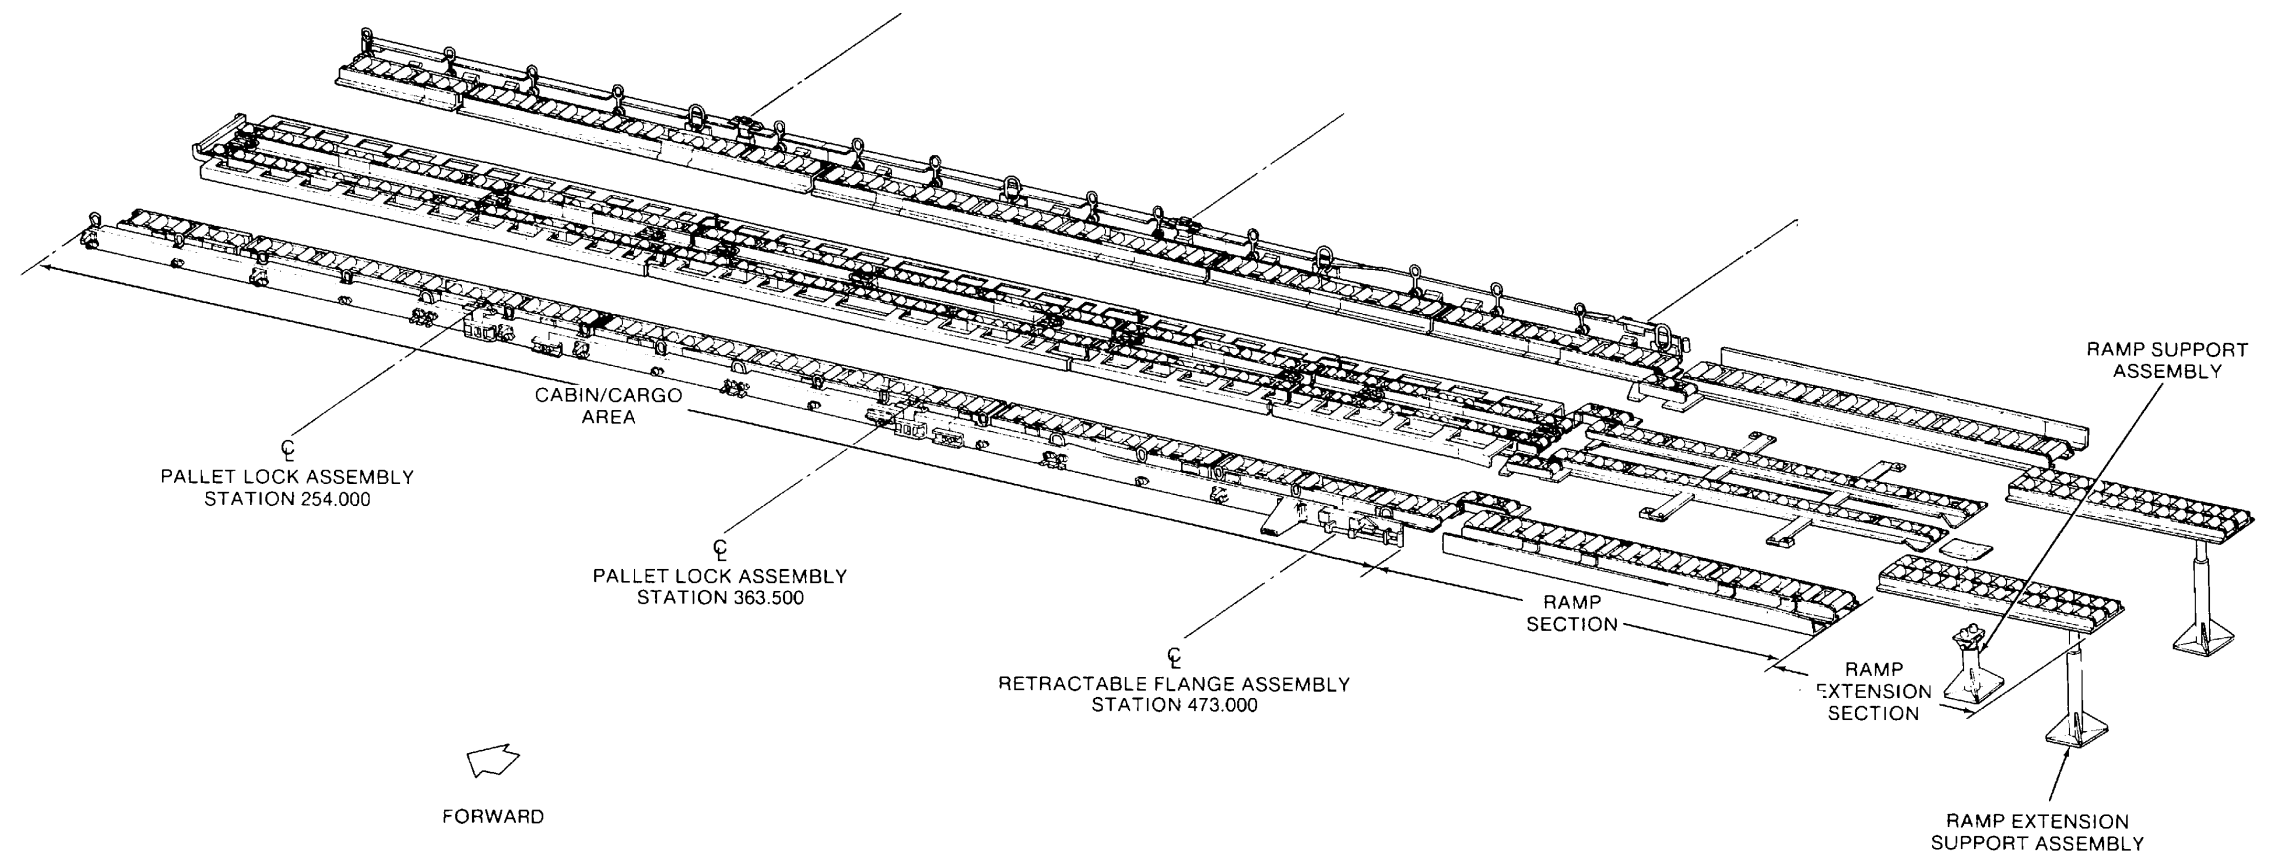

Figure 1-1. CH47 Helicopter Internal Cargo Handling System
1-2. Purpose. The Helicopter Internal Cargo Handling System, Part No. 18049 J 100, is shown in Figure 1-1. It is designed for use in the CH47 Helicopter as a means of loading and unloading various configuration cargo. The types of cargo are shown in Table 1-1.
b. *Physical Description.* The Helicopter Internal Cargo Handling System consists of three major sections. These are the cabin/cargo area, ramp section, and ramp extension section, as shown in Figure 1-1.